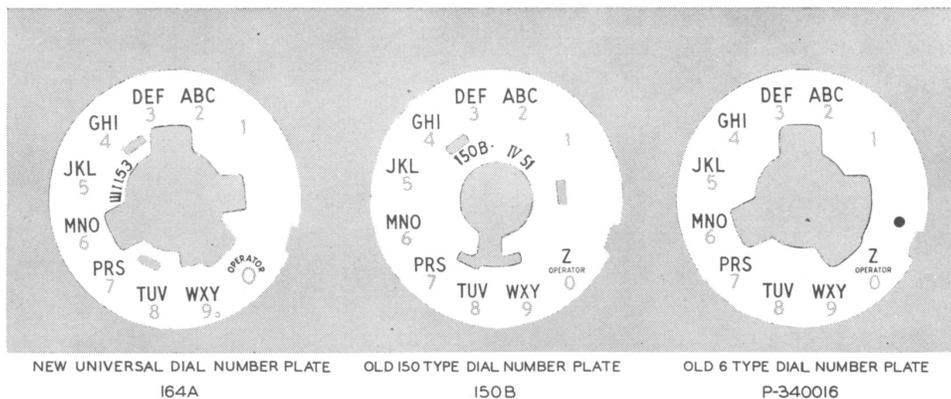

Fig. 7 -Number Plates
4.01 A number plate 164A has been made available for use with 2-, 4-, 5-, and 6-type dials. It is intended for general station use. A blank number plate 164B is available for use with coin collectors. Fig. 7, shows comparison of the universal number plate 164A with the 150B and P-340016 number plates.